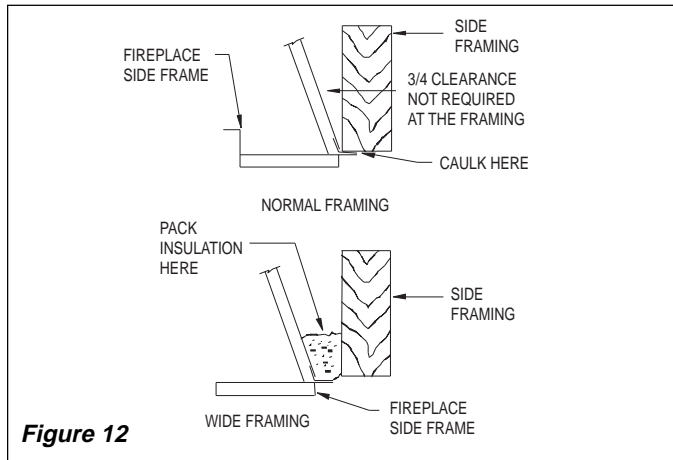

Figure 12
- NOTE: The 3/4" clearance is not required at the nailing flange (see Figure 12, page 6).
Before finishing the enclosure around the fireplace, inspect all joints around the fireplace. Any gaps between the nailing flanges and the framing should be sealed with noncombustible insulation or caulking (see Figure 12). Inspect the fireplace joints for possible gaps caused by shipping or mishandling during installation. These should be sealed with noncombustible materials. If the fireplace is mounted on a raised platform, insulate below the platform to prevent the entry of cold air through the fireplace bottom by means of conduction. The above steps are important, especially if the fireplace is installed in cold weather climate. The opening around the base of the chimney must remain open and free to circulate outside air for keeping the chimney cool as designed (see Figure 4, page 3). The fireplace must be set on a continuous platform to prevent cold air from conducting through the metal bottom. The platform bottom may be constructed of any wood product or other materials such as cement.